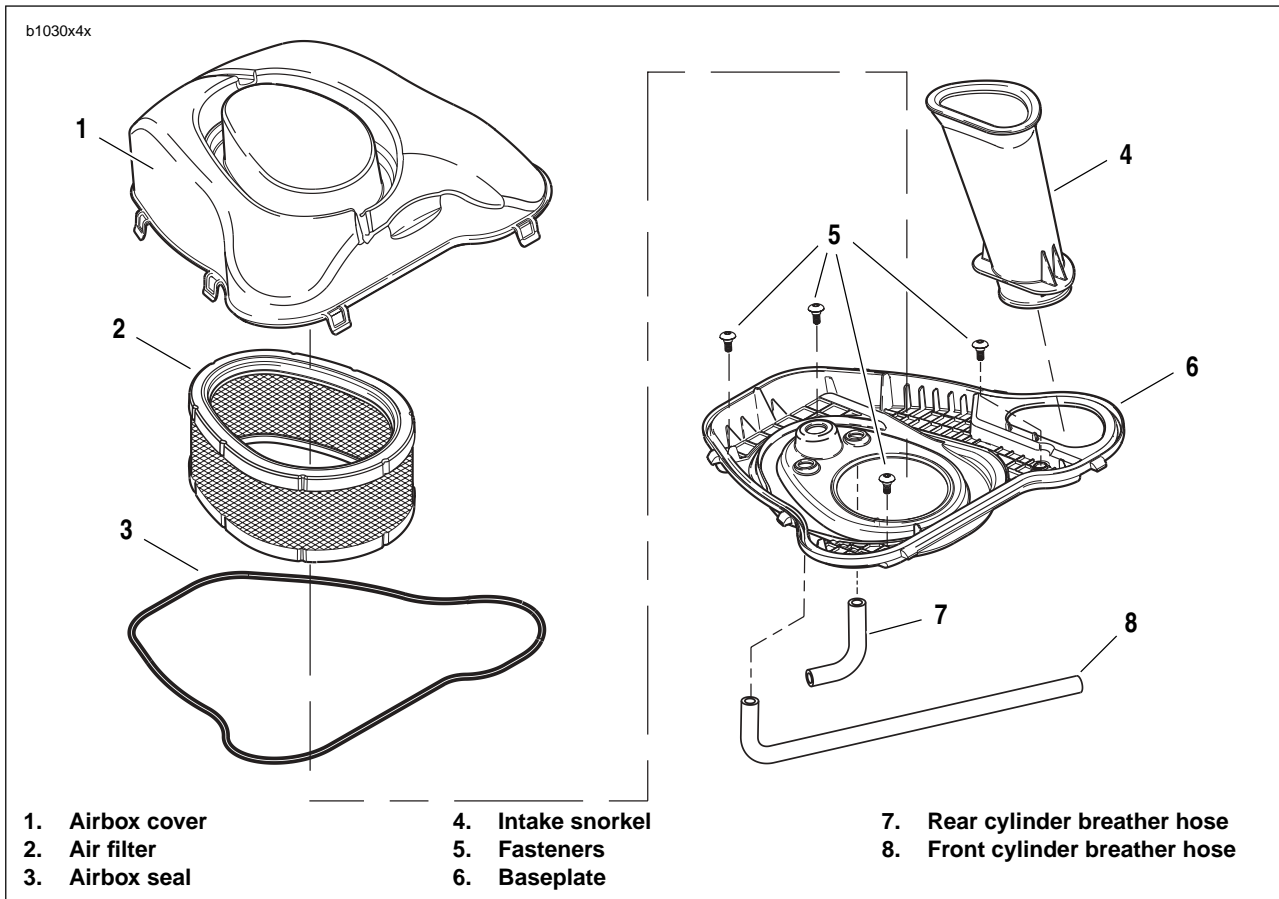

Figure 4-221. Airbox
1. See Figure 4-221. Hold baseplate above mounting position.